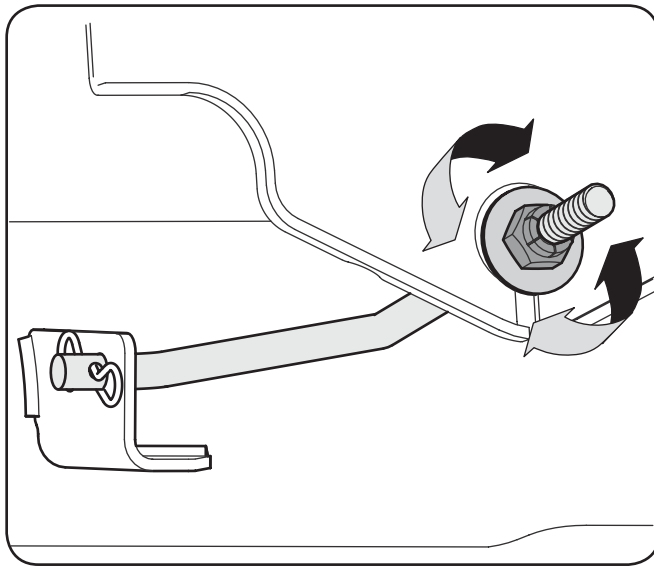

Figure 6-3
3. Locate the jam nut and lock nut on the front side of the stabilizer bracket. See Fig. 6-3 After loosening the jam nut: